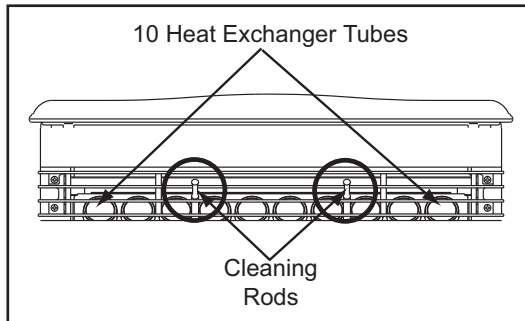

Figure 32.1
- Locate the 2 exposed rods directly underneath the heat exchanger tubes. **Figure 32.1.**